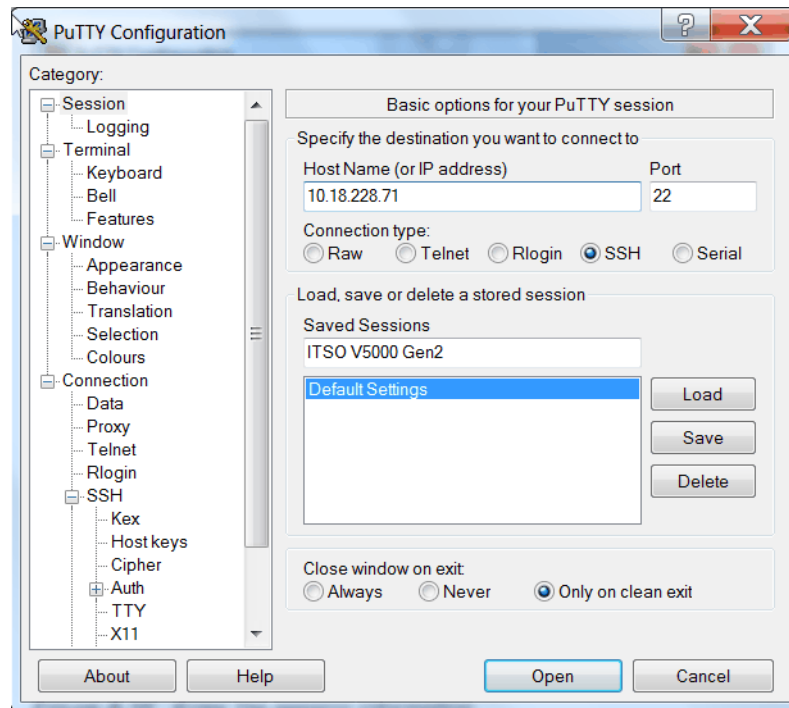

Figure A-16 Enter the session information
4. In the Category pane, click **Session** to return to the PuTTY Configuration window Basic options for your PuTTY session view (Figure A-16).